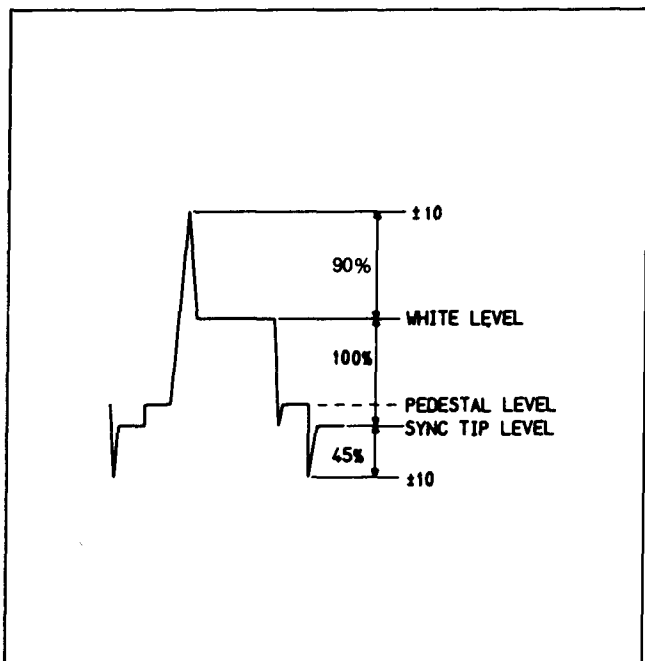

Fig. 9 White and Dark Clip Adjustment
- 4) Adjust the White Clip Control (VR0306) and Dark Clip Control (VR0307) so that the overshoot and undershoot are as shown in Fig. 9.